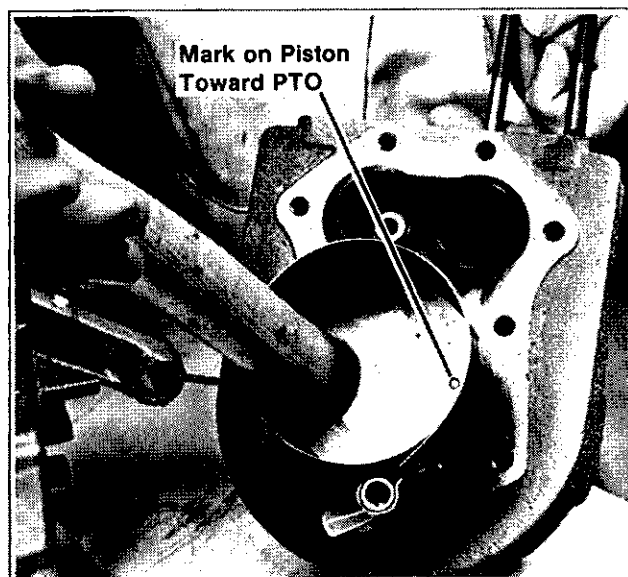

Figure 8-22. Installing Pistons In Cylinder Barrels
**IMPORTANT:** Make sure locating mark on top of both pistons is toward PTO (exhaust port) side of barrel as shown in Figure 8-22.